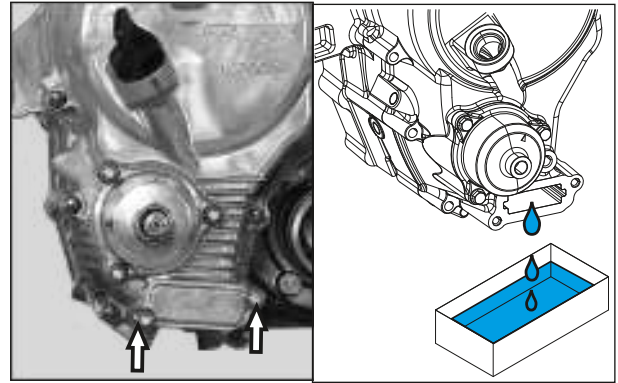

Fig. 2.11
- Loosen and remove 2nos. Hexagonal flange nut M6 from the cover strainer mounting. (Fig.2.11)